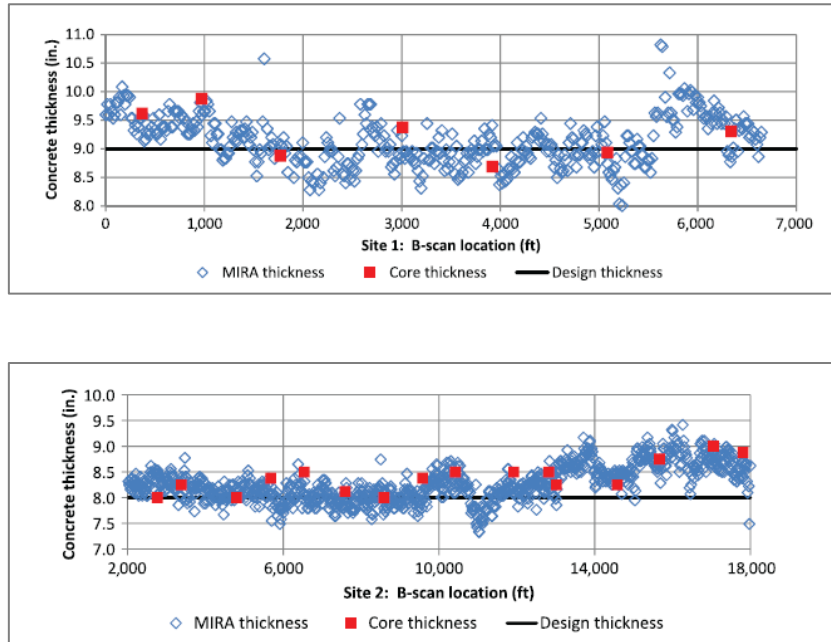

Figure 11
- Fig. 11 Vancura M. et al (2013): "Concrete Pavement Thickness Variation Assessment with Cores and Nondestructive Testing Measurements", Journal of the Transportation Research Board, 2347/ page 61 – 68